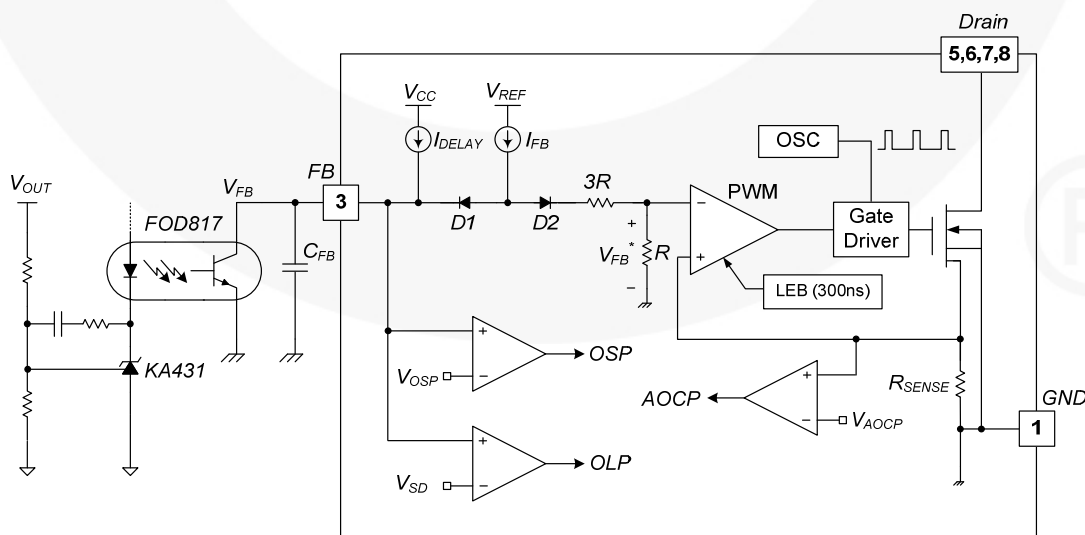

Figure 18. Pulse Width Modulation Circuit
3. Feedback Control: This device employs Current-Mode control, as shown in Figure 18. An opto-coupler (such as the FOD817) and shunt regulator (such as the KA431) are typically used to implement the feedback network. Comparing the feedback voltage with the voltage across the R_{SENSE} resistor makes it possible to control the switching duty cycle. When the reference pin voltage of the shunt regulator exceeds the internal reference voltage of 2.5V, the opto-coupler LED current increases, pulling down the feedback voltage and reducing drain current. This typically occurs when the input voltage is increased or the output load is decreased.
3.1 Pulse-by-Pulse Current Limit: Because Current-Mode control is employed, the peak current through the SenseFET is limited by the inverting input of the PWM comparator (V_{FB}^*), as shown in Figure 18. Assuming that the $90\mu A$ current source flows only through the internal resistor ($3R + R = 27k\Omega$), the cathode voltage of diode D2 is about 2.5V. Since D1 is blocked when the feedback voltage (V_{FB}) exceeds 2.5V, the maximum voltage of the cathode of D2 is clamped at this voltage. Therefore, the peak value of the current through the SenseFET is limited.